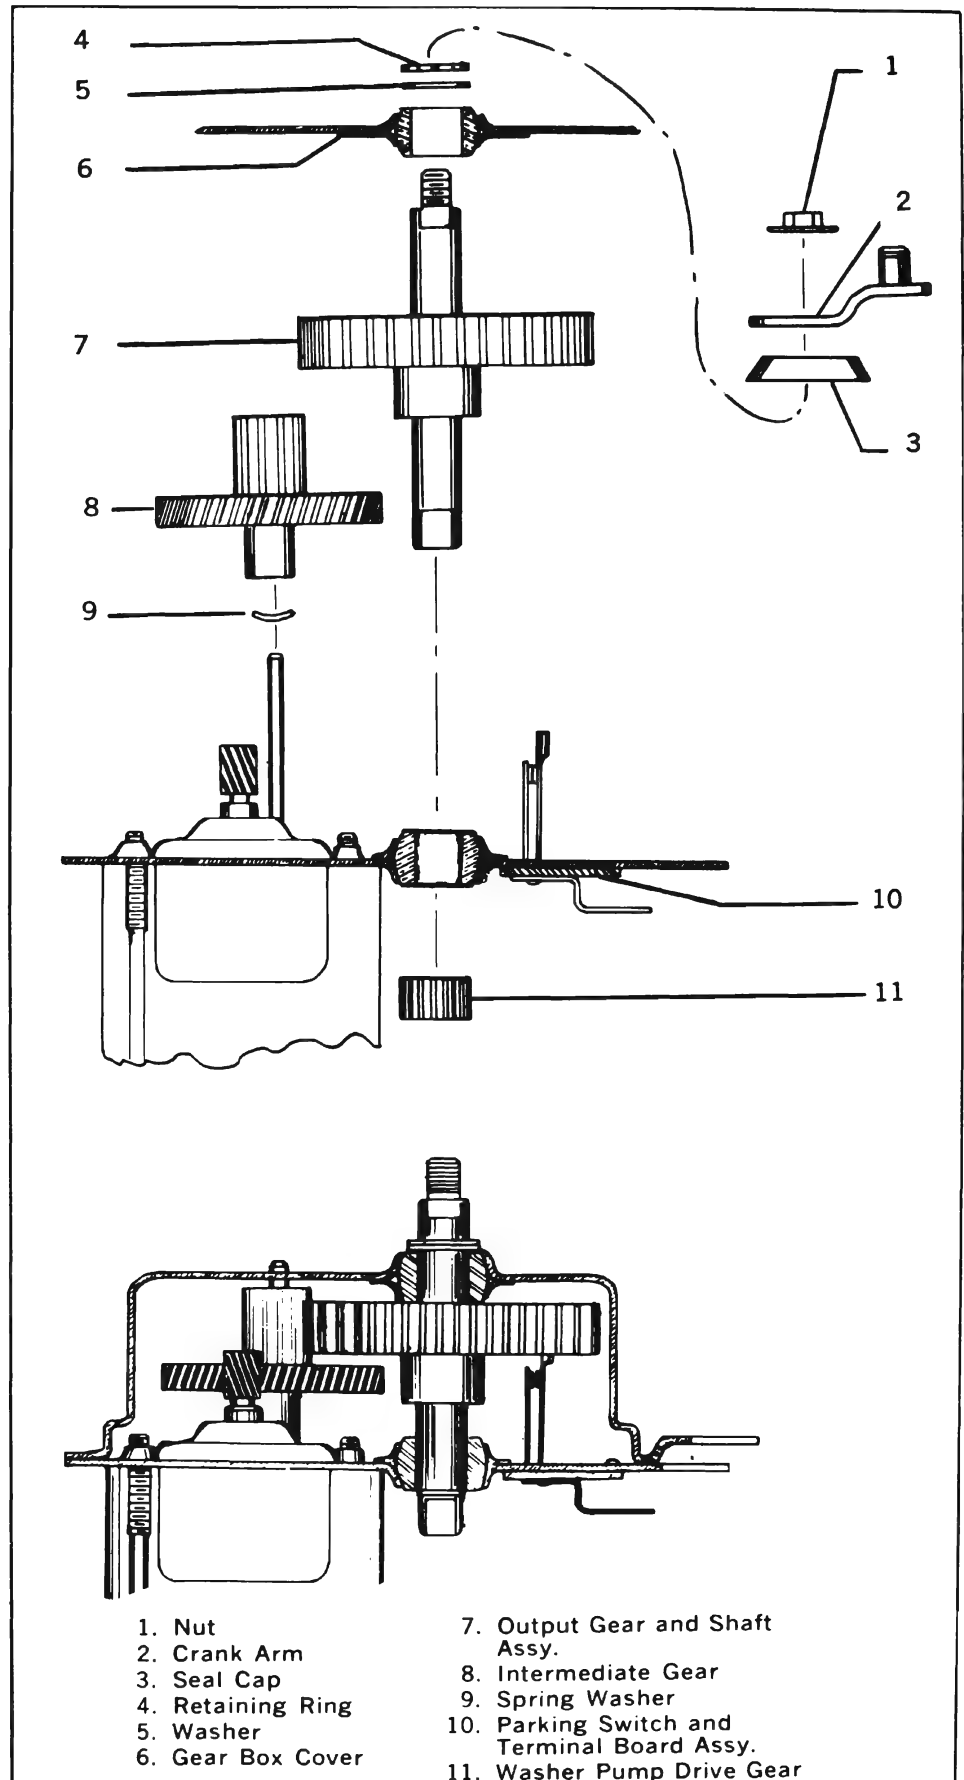

Figure 10-106—Gear Box Assembly
5. Remove output gear and shaft assembly, then slide intermediate gear and pinion assembly off shaft. (Figure 10-106).